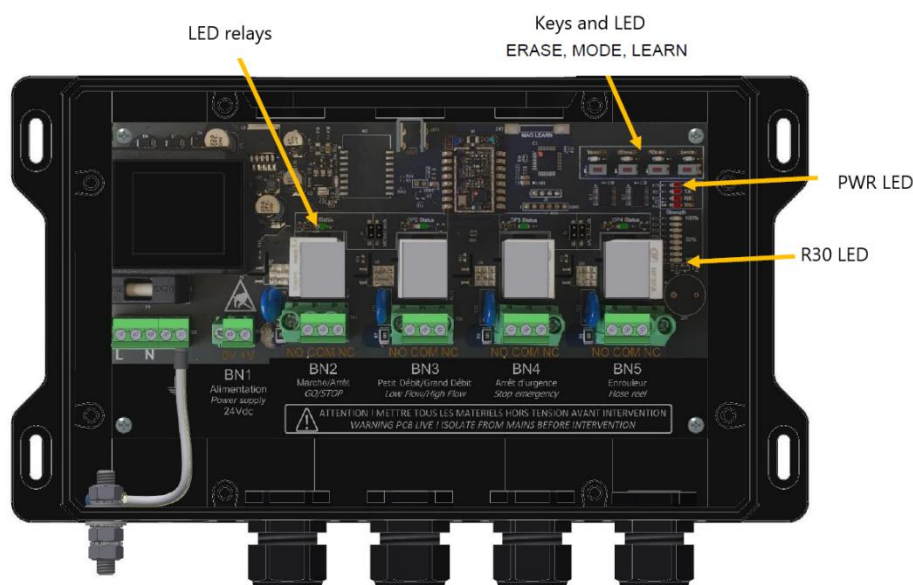

Fig.2 – Receiver box without lid
- ⇒ Press and hold (3s) the LEARN key (Fig.2) The LEARN LED and the red LEDs on the right of the relays blink